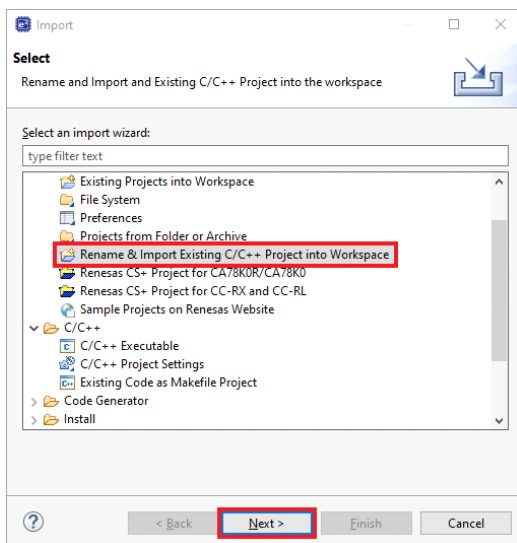

Figure 22. Selection of the Import Wizard Option
11. From the Import Wizard window, select **Rename & Import Existing C/C++ Project** into Workspace and click on the **Next >** button (Figure 22).